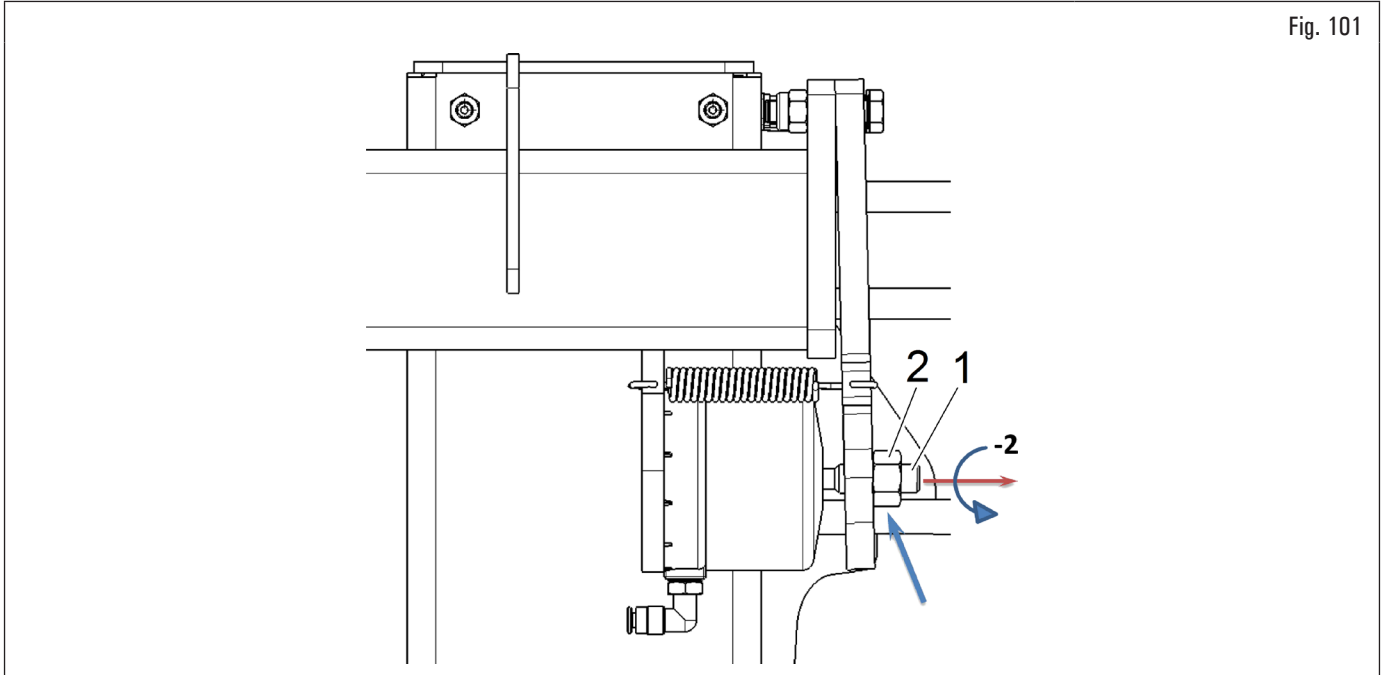

Fig. 101
- starting from the position reached at point (3), remove neck adjusting grub screw counter-clockwise by 2 complete turns (Fig. 101 ref. 1) and lock the relevant counter nut (Fig. 101 ref. 2);